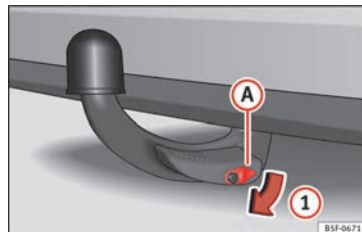

Fig. 230 Removing the lock cover.
- Remove cover ① from the lock in the direction of arrow ① » Fig. 230.